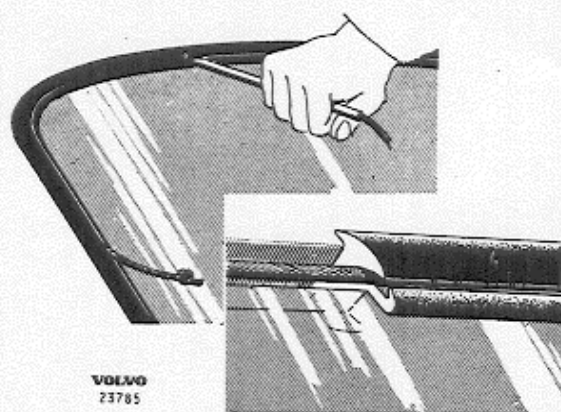

Fig. 47. Fitting the cord for the trim moulding
1. Place a strap or a cord in the groove in the rubber weatherstrip as done earlier when fitting the glass, see Fig. 47. NOTE. This assumes the glass is in position in the body.